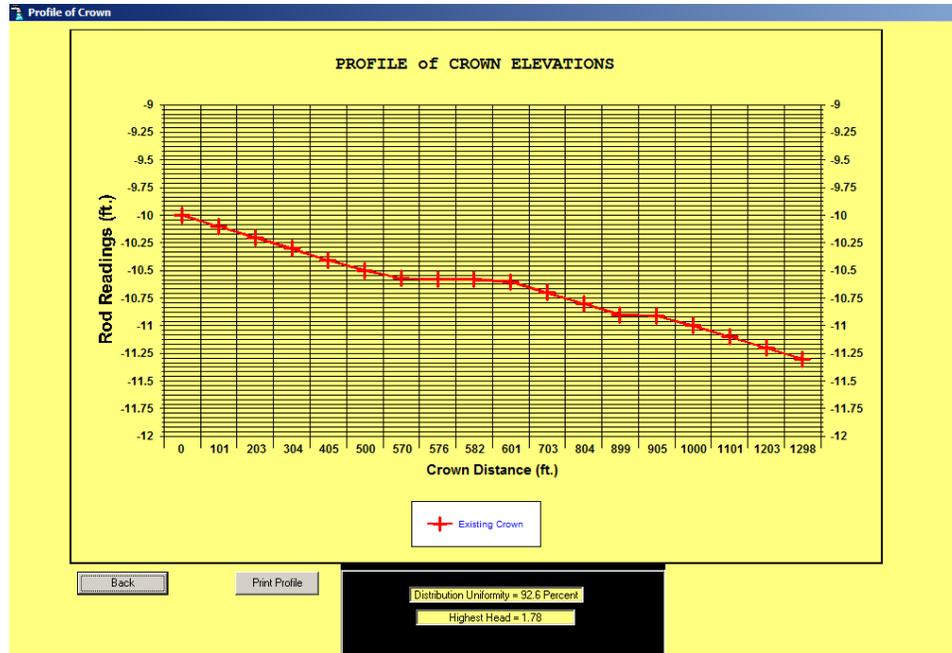

Figure 17 – Profile of Crown Elevations report
- 1. Crown Profile:** This menu option displays the Profile of Crown Elevations as a graphical report (fig. 17) and is only available from the Design Screen.